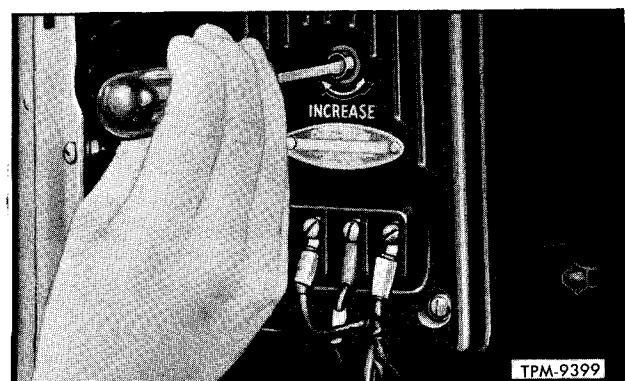

Figure 8—Adjusting Voltage Regulator
4. Observe voltmeter; a steady reading of 13.7 volts should appear. If this reading is not present, remove plug from regulator and adjust potentiometer (fig. 8) until reading is obtained.